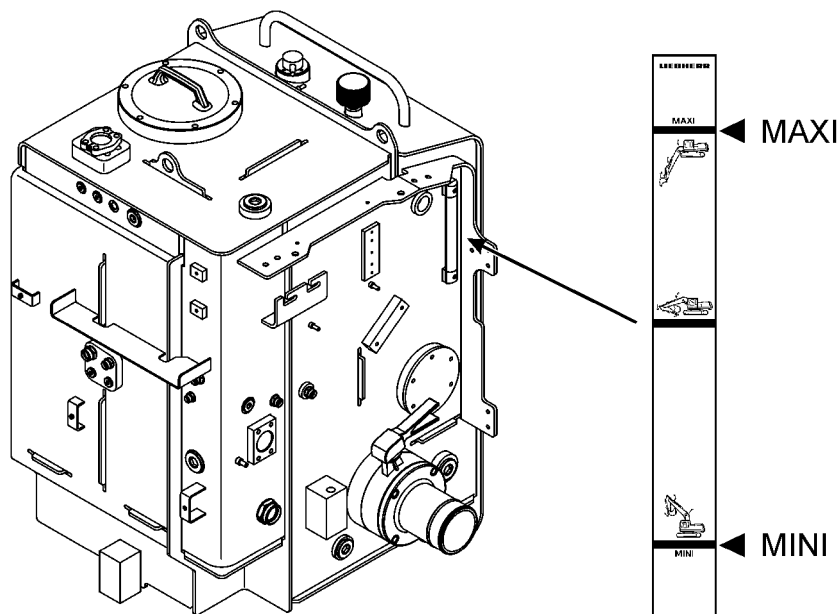

Fig. 5-41 Hydraulic tank oil level
- ▶ Refill the oil through the filter cartridge **2** or throw the screw cap **4** on collecting compartment until the level reaches precisely the central marking on the inspection window (siehe Fig. 5-41).